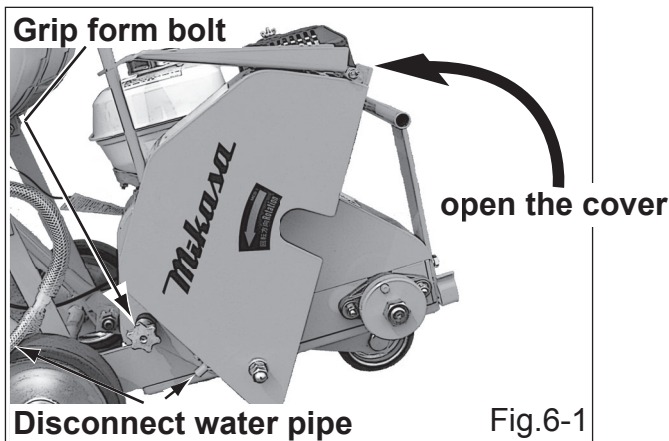

Fig.6-1
a. As shown in Fig.6-1, disconnect water